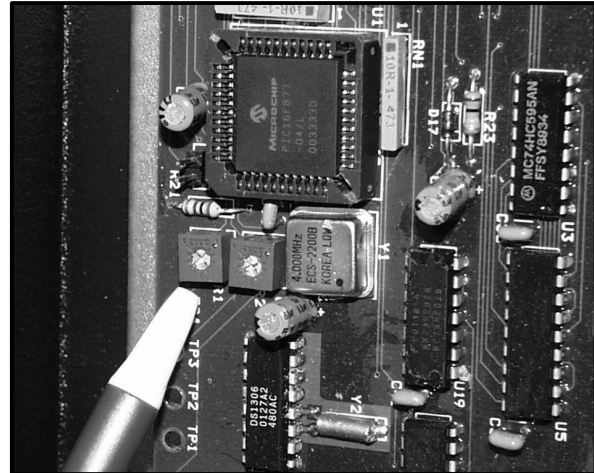

Figure 13
3. Turn the potentiometer to the required setting. See Figure 13.